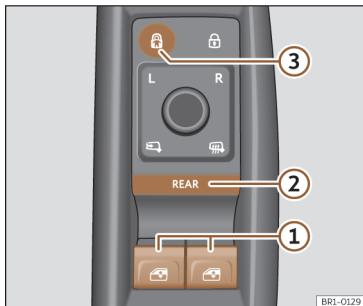

Fig. 80 Detail of the driver door: controls for the windows.
- ① Electric window operation buttons.
- ② **REAR** Button for activating the electric window operation and comfort opening and closing.
- ③ Button to deactivate the electric window operation buttons on the rear doors and activate the child lock on the rear doors. By default, the electric windows on the front doors can be operated with the buttons >>> **Fig. 80** ①.
REAR Briefly press button >>> **Fig. 80** ② to activate the operation of the rear door electric windows. When the operation of the rear door electric windows is activated, the button's light is on.
Press the button >>> **Fig. 80** ③ to deactivate the electric window buttons located on the rear doors. When these buttons are deactivated the button light turns out.